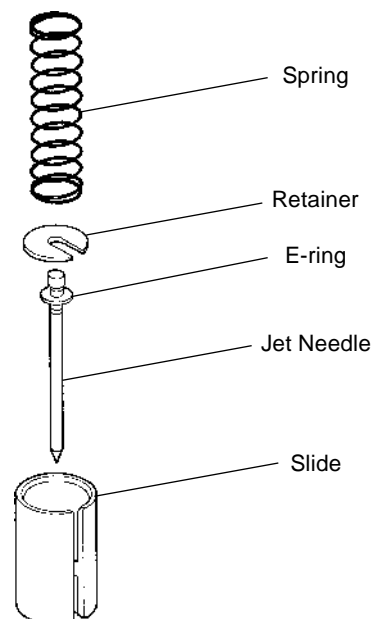

Figure 3.18 Slide and needle assembly
STEP 1. Assemble the slide and needle in the exact order as shown in Figure 3.18.